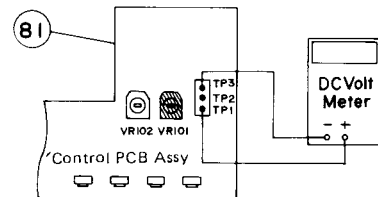
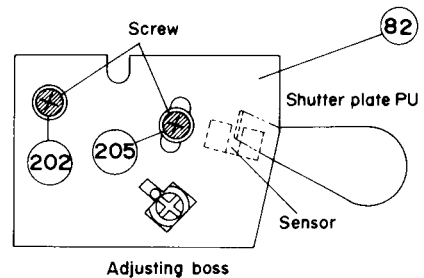

Figure 24
Figure 25
- (1) Remove the cabinet top according to "1. Removal of Cabinet Top" (page 4).
- (2) Press this POWER button so that the unit will be switched on.
- (3) Connect the D.C. voltmeter between TP1 and TP3 terminals on Control PCB Assembly "81" (Figure 24).
- (4) Slightly loosen two screws, "202" and "205", which fasten the Photo PCB Assembly "82" (Figure 25).
- (5) Turn the adjusting boss counterclockwise with the screwdriver (Figure 25).
- (2) Press the POWER button so that the unit will be switched on.
- (3) Connect the D.C. voltmeter between TP1 and TP3 terminals on Control PCB Assy " (81) " as shown in Figure 24. Slightly loosen two screws, " (202) " and " (205) ", which fasten the Phono PCB Assy as shown in Figure 25. Turn the adjusting boss with a screwdriver so that the voltmeter shows -0.5 ~ +0.5 volts.